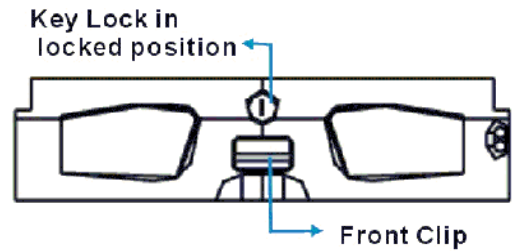
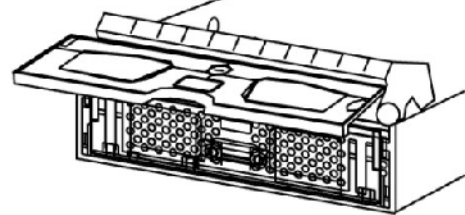

Figure 11: Drive Tray Front View
Figure 12: Drive Tray with Open Front Flap
Step 1: Make sure the key-lock is in the unlocked position. The key-lock is unlocked if the groove on its face is in a horizontal orientation. If the groove is in a vertical position, as shown in *Figure 11*, then the key-lock is locked and the front flap on the drive tray cannot be opened.
Step 2: Open the front flap on the drive tray. (See *Figure 12*) To open the flap, push the clip (shown in *Figure 11*) on the front of the drive tray in an upward direction. The clip is easy to access and lift.